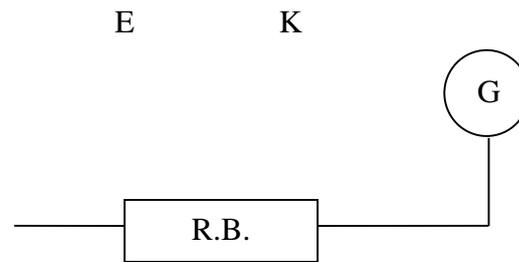

Figure 2
- (i) Set up the electrical circuit as shown in the following figure 2.